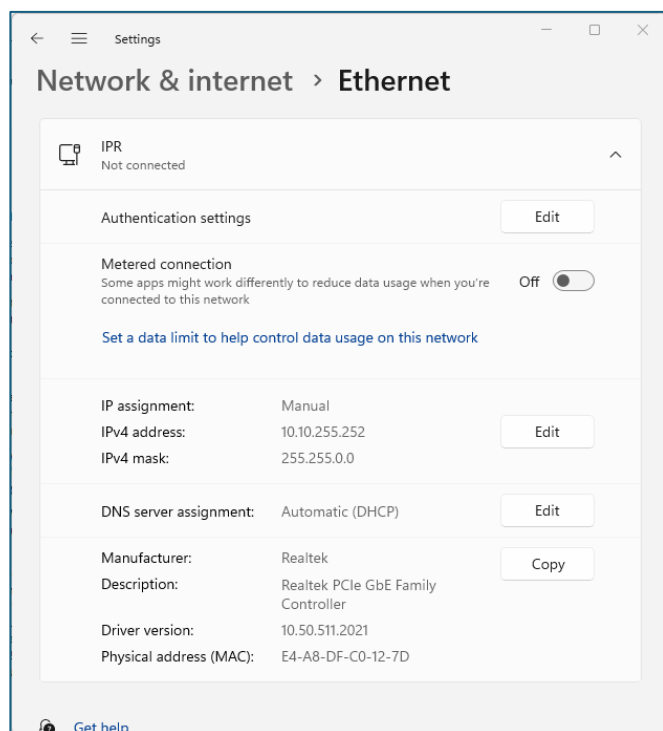

Figure 2 Ethernet interface settings
10.10.255.252 with IPv4 mask: 255.255.0.0. This is done in the windows settings->Network & internet and then Ethernet Interface Settings as shown in Figure 2. Talon-2 will display a message if no ethernet interface is found with the correct address.